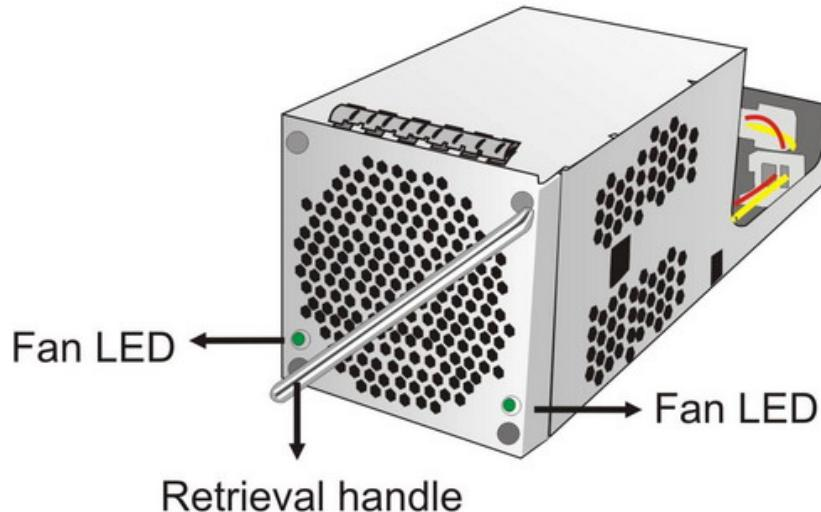

Figure 1-12: Cooling Module
Two cooling modules at the rear center ventilate the system. (see **Figure 1-12.**) The cooling fans operate at two (2) fan speeds. When the system operates normally, the cooling fans operate at the lower speed. If a system module fails or when one of the temperature